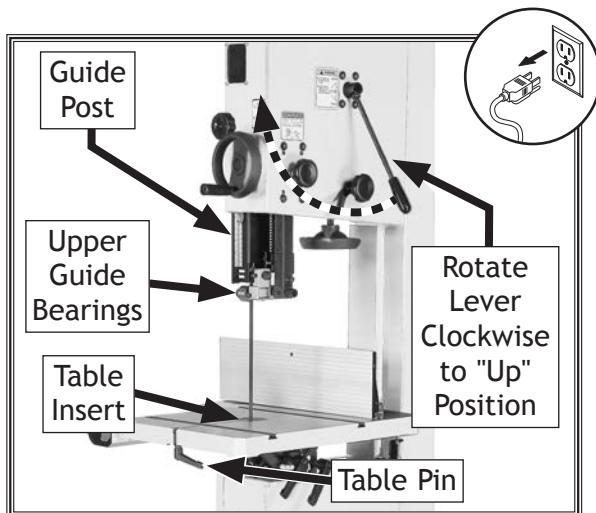

Figure 72. Blade changing controls.
2. Release blade tension by rotating blade tension quick-release lever (see Figure 72) clockwise to up position.
3. Remove table insert and table pin. Adjust upper and lower guide bearings as far away as possible from blade (see Figure 72).